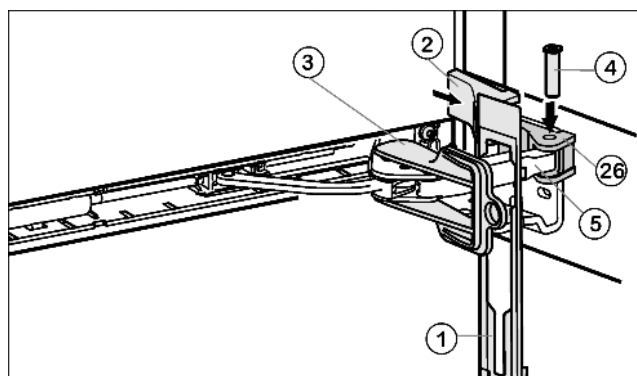

Fig. 11
- ▶ Attach the faceplate Fig. 11 (1) to the soft stop bracket so that the catches face forwards and the front faces the appliance.
- ▶ Draw the soft stop bracket Fig. 11 (5) towards the bearing part Fig. 11 (26) and re-insert the pin Fig. 11 (4) from above so that the square sits in the recess.
- ▶ Attach and engage the cover Fig. 11 (2).
- ▶ Twist the safety lock Fig. 11 (3) for removal.
- ▶ Slide the faceplate Fig. 11 (1) onto the door and snap it into place.